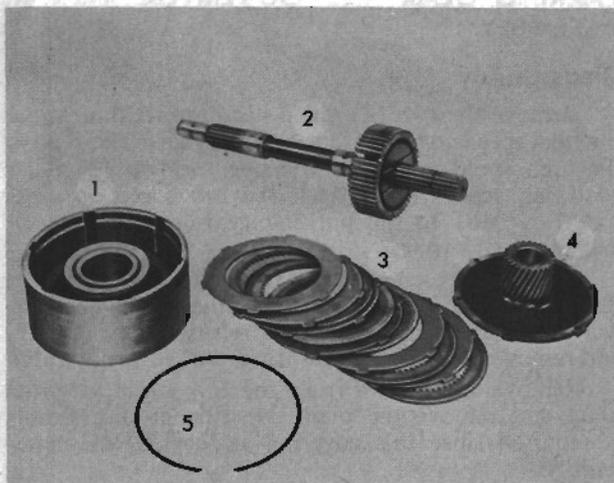

FIG. 323
lined plates and steel plates from the clutch housing. There are six (6) flat steel plates and six (6) lined friction plates in the clutch assembly (see Fig. 323).